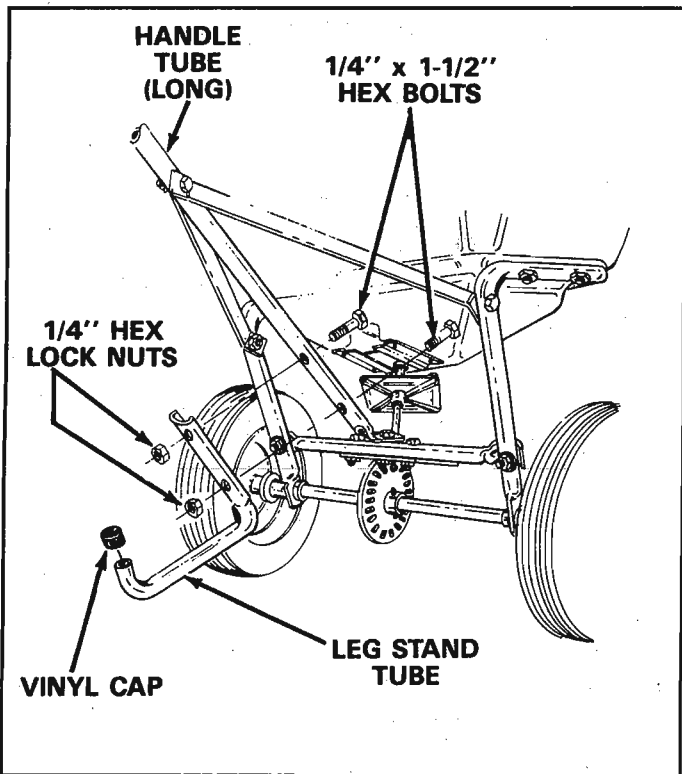

FIGURE 9
13. Assemble the leg stand tube to the handle tube (long) using two (2) 1/4" x 1-1/2" hex bolts. Secure tightly with two (2) 1/4" hex lock nuts. See figure 9.
14. Place vinyl cap on the leg stand tube. See figure 9.